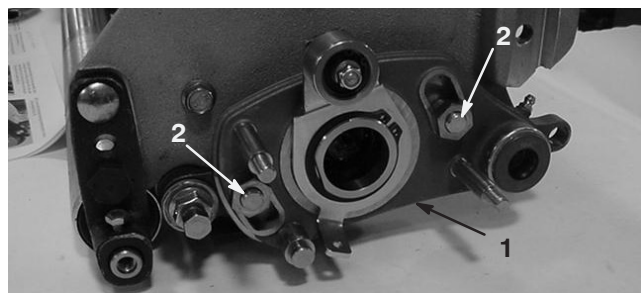

Figure 6
11. Position the right-hand groomer drive assembly onto the bearing housing and sideplate adapters (Fig. 6).
12. Secure groomer drive assembly to the side plate adapters with (2) lock nuts (Fig. 6). Tighten the locknuts until the plate no longer can rotate. Hold the sideplate adapters with a Allen wrench and back-off the nuts 1/4 turn.